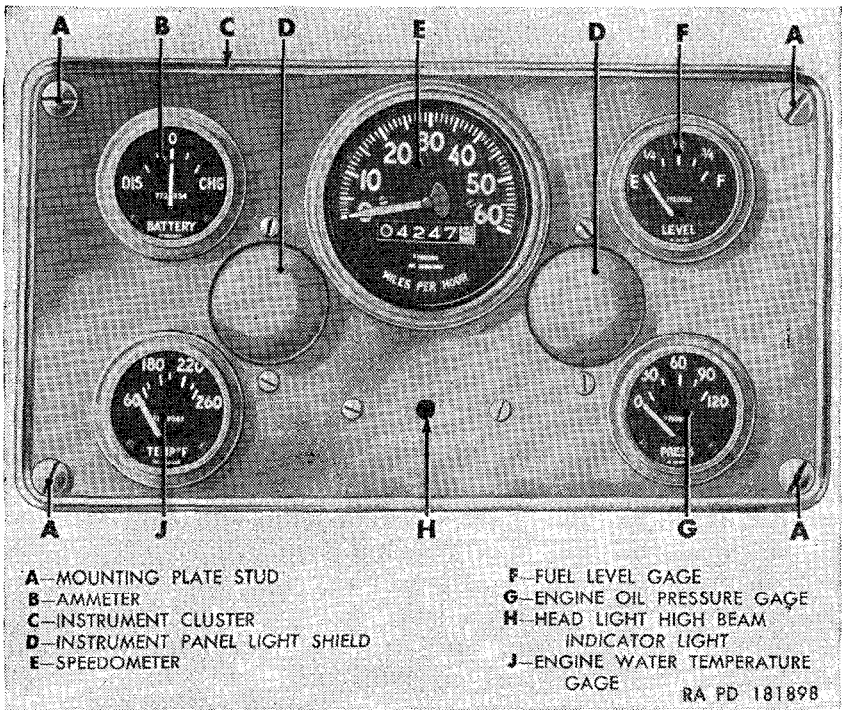

Figure 112. Instrument cluster (M38A1)—front view.
a. Instrument Cluster (figs. 112 and 113). The speedometer, ammeter, engine oil pressure gage, water temperature gage, fuel level gage, two instrument panel lights, and headlight high beam indicator light are mounted in the instrument panel mounting plate located in the instrument panel. This assembly is referred to as the instrument cluster. The location and function of the various units in the instrument cluster are described in paragraphs 33 through 39.
a. Removal. Disconnect the ground cable 7 (par. 162b(8) (a) and (b)). Turn each of the four instrument cluster mounting plate studs (A, fig. 112) one-half turn counterclockwise and pull instrument cluster free from instrument panel. Unscrew the nut securing the
40 at double connector R. Connect cable 17 at connector U. Connect cable 27 to connector T. Position speedometer flexible shaft assembly in rear of speedometer and tighten nut securing shaft to speedometer (DD). Install instrument cluster in instrument panel and secure in position by turning the four instrument cluster mounting plate studs (A, fig. 112) one-half turn clockwise. Connect ground cable 7 (par. 162b(9)(b) and (c)).
Disconnect ground cable 7 (par. 162b(8)(a) and (b)). Turn the four instrument cluster mounting plate studs (A, fig. 112) one-half
turn counterclockwise and pull instrument cluster free from instrument panel. Disconnect cables 8 and 9 from terminals H and L. Remove the nuts and lockwashers (K) securing the ammeter (B, fig. 112) and ammeter mounting bracket (J) in position and remove bracket and ammeter from instrument panel mounting plate (E).
Position the ammeter in the instrument panel mounting plate (E) and rotate ammeter until it engages the locating slot in the plate. Position ammeter mounting bracket (J) over the ammeter and secure ammeter and bracket in position with two No. 8 lockwashers and nuts (K). Install cable 8 on terminal H and cable 9 on terminal L. Position the instrument cluster on the instrument panel and turn the four instrument cluster mounting plate studs (A, fig. 112) one-half turn clockwise. Connect ground cable 7 (par. 162b(9)(b) and (c)).
a. Removal. The removal procedure for the fuel level gage (F, fig. 112) is the same as the removal procedure for the ammeter (par. 174a) with the exception of the mounting bracket and the cables.
b. Installation. The installation procedure for the fuel level gage (F, fig. 112) is the same as installation procedure for the ammeter (par. 174*b*) with the exception of mounting bracket and cables. The fuel gage mounting bracket (B, fig. 114) is used. Install cable 28 on terminal (A, fig. 114) and cable 27 on terminal (D, fig. 114).
a. Removal. The removal procedure for the engine water temperature gage (J, fig. 112) is the same as the removal procedure for the ammeter (par. 174*a*) with the exception of the mounting bracket and the cables. Water temperature gage mounting bracket (N, fig. 114) is used. Disconnect cable 27 from terminal (Q, fig. 114) and cable 33 from terminal (M, fig. 114).
a. Removal. The removal procedure for the engine oil pressure gage (G, fig. 112) is the same as removal procedure for the ammeter (par. 174*a*) except for the mounting bracket and cables. Oil pressure gage mounting bracket (V, fig. 114) is used. Disconnect cable 27 from terminal (Y, fig. 114) and cable 36 from terminal (W, fig. 114).
b. Installation. Installation of the engine oil pressure gage (G, fig. 112) is the same as installation of the ammeter (par. 174*b*) with the exception of the mounting bracket and cables. Oil pressure gage mounting bracket (V, fig. 114) is used. Install cable 36 on terminal (W, fig. 114) and cable 27 on terminal (Y, fig. 114).
- (1) Turn the four instrument cluster mounting plate studs (A, fig. 112) one-half turn counterclockwise and pull the instrument cluster free from instrument panel.
- (2) Unscrew the nut securing the speedometer flexible shaft assembly to the speedometer (DD), and pull shaft out of speedometer.
- (3) Remove the nut (CC), lockwasher, and plain washer securing the instrument cluster circuit breaker-to-gages wiring harness
- (1) Position the speedometer (DD) in the instrument panel mounting plate (E) and locate speedometer mounting bracket (F) over speedometer mounting studs.
- (2) Install a No. 8 lockwasher on speedometer lower mounting stud, and screw the wiring harness mounting stud (BB) on the speedometer mounting stud.
- (3) Install the 0.322-inch ID plain washer, instrument cluster circuit breaker-to-gages wiring harness (AA), 0.203-inch ID plain washer, and No. 8 nut (CC) on the wiring harness mounting stud. Install a No. 8 lockwasher and nut (G) on the remaining speedometer mounting stud.
- (4) Install the speedometer flexible shaft assembly in the speedometer (DD) and tighten nut securely.
- (5) Position instrument cluster on instrument panel and turn the four instrument cluster mounting plate studs (A, fig. 112) one-half turn clockwise.
a. Removal (M38A1). Turn the four instrument cluster mounting plate studs (A, fig. 112) one-half turn counterclockwise and pull instrument cluster free from instrument panel. The two instrument panel lights with cables are permanently connected together in double connector (R) and must be replaced as one unit. Disconnect cable 40
at double connector (R). Remove the four screws and lockwashers securing the instrument panel lights (Z) to the instrument panel mounting plate (E) and remove lights and instrument panel light shields (D, fig. 112).
b. Installation (M38A1). Position the instrument panel light shields (D, fig. 112) in the instrument panel mounting plate (E). Position the two instrument panel lights on the plate and secure each one with two No. 8 x $\frac{5}{16}$ screws and No. 8 lockwashers. Connect cable 40 to double connector R. Position instrument cluster on instrument panel and turn the four instrument cluster mounting plate studs (A, fig. 112) one-half turn clockwise.
e. Lamp Replacement (M38A1). Turn the four instrument cluster mounting plate studs (A, fig. 112) one-half turn counterclockwise and pull instrument cluster free from instrument panel. Press in on the cover of the instrument panel light (Z), turn counterclockwise and pull cover off light body. Press in and turn lamp counterclockwise, to disengage it from lamp socket and remove lamp. Install new lamp by pressing lamp into socket and turning clockwise. Install instrument panel light cover by pressing in and turning clockwise in lamp body. Position instrument cluster on instrument panel and turn the four instrument cluster mounting plate studs (A, fig. 112) one-half turn clockwise.
a. Removal (M38A1). Turn the four instrument cluster mounting plate studs (A, fig. 112) one-half turn counterclockwise and pull instrument cluster free from instrument panel. Disconnect cable 17 at connector (U, fig. 114). Remove the two screws and lockwashers securing the headlight high beam indicator light in position and remove indicator light.
b. Installation (M38A1). Position the headlight high beam indicator light (S, fig. 114) on the instrument panel mounting plate (E, fig. 114) and secure in position with two No. 8 x 1/2 screws and No. 8 lockwashers. Connect cable 17 to connector (U, fig. 114). Position instrument cluster on instrument panel and turn the four instrument cluster mounting plate studs (A, fig. 112) one-half turn clockwise.
e. Lamp Replacement (M38A1). Turn the four instrument cluster mounting plate studs (A, fig. 112) one-half turn counterclockwise and pull instrument cluster free from instrument panel. Turn the cover of the headlight high beam indicator light (S, fig. 114) counterclockwise and pull cover out of light body. Press in and turn lamp counterclockwise to disengage it from lamp socket. Install new lamp by pressing it into lamp socket and rotating clockwise. Position indicator light cover on light body, press in and turn cover clockwise to engage with light body. Position instrument cluster on instrument panel and turn the four instrument cluster mounting plate studs (A, fig. 112) one-half turn clockwise.